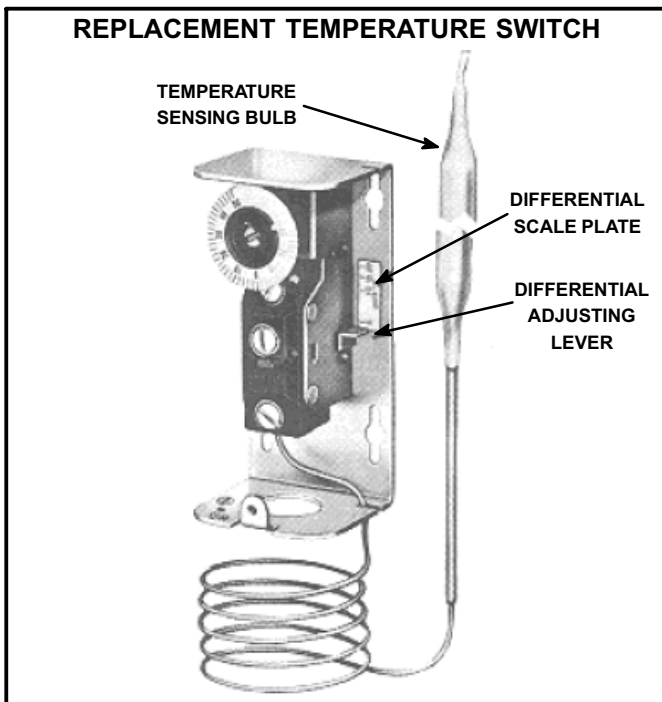

FIGURE 4
- 6 - Set the temperature to match the original switch and set a differential of 10°F on control before installing. See figure 4. (The original switch is factory-set to close at 40° +/- 2°F on a temperature drop and open at 50° +/- 2°F on a temperature rise.)
To accommodate this possible temperature variation, the factory setting of the S55 or S23 may be reset to a higher temperature using the differential adjusting lever (see figure 4 and table 1). This will allow the temperature switch to compensate for the ambient differences.